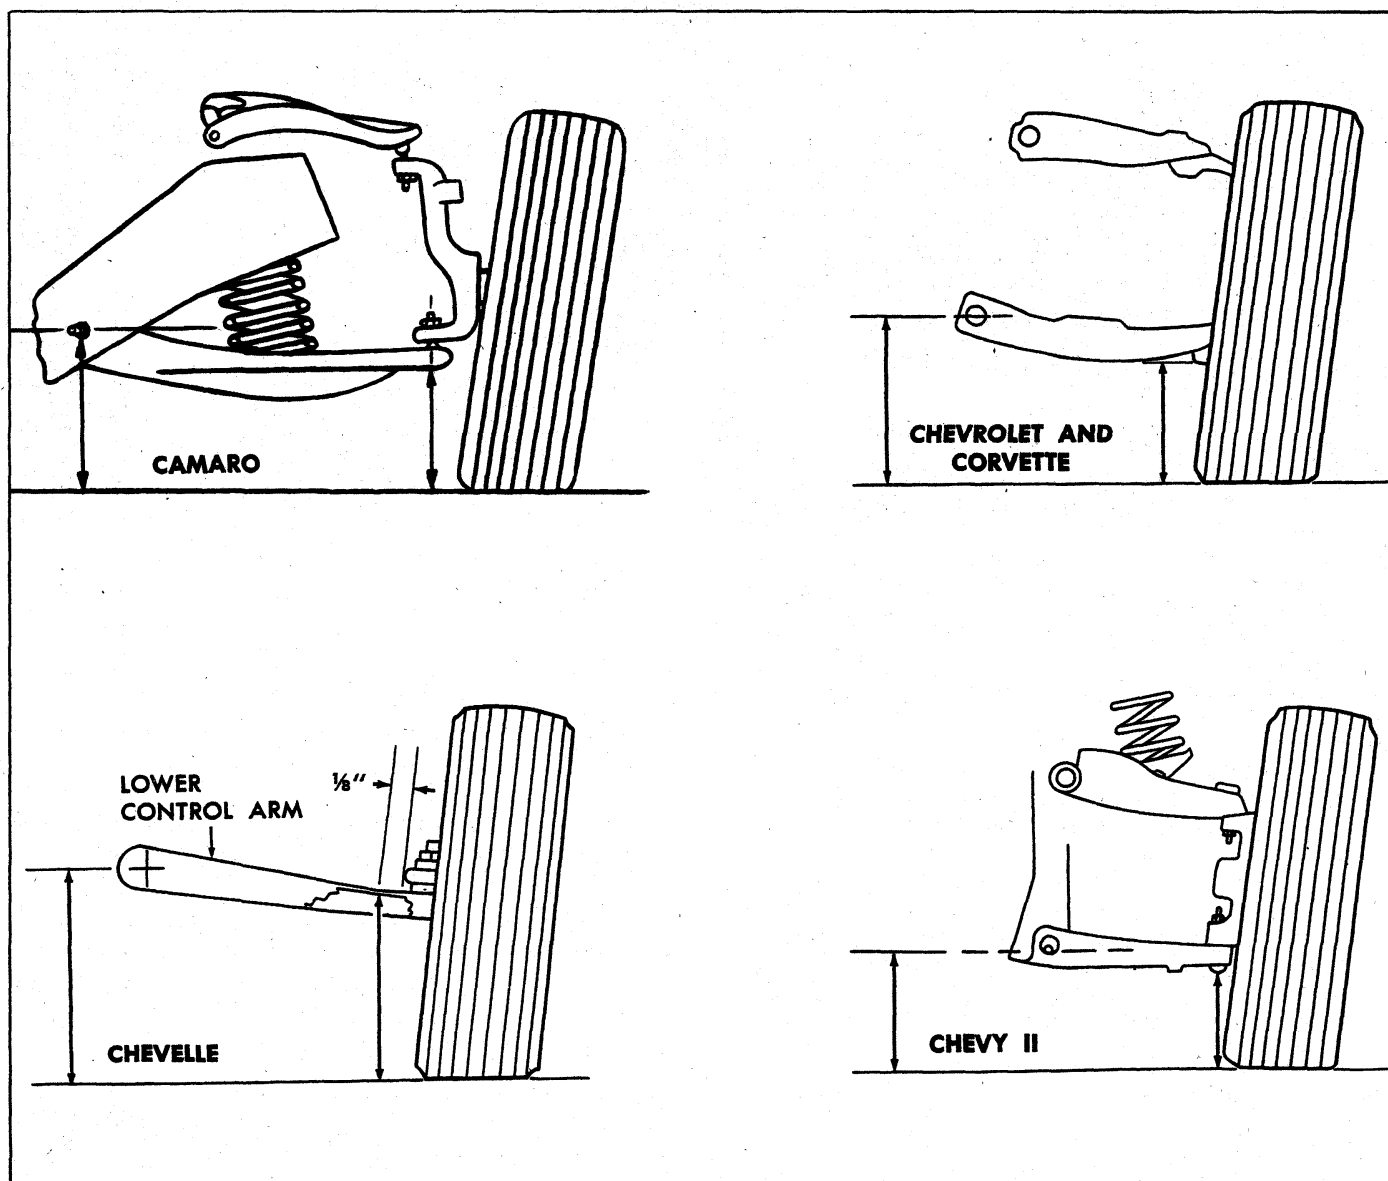

Fig. 9 - Checking Riding Height
2. Measure the following two distances (fig. 9):